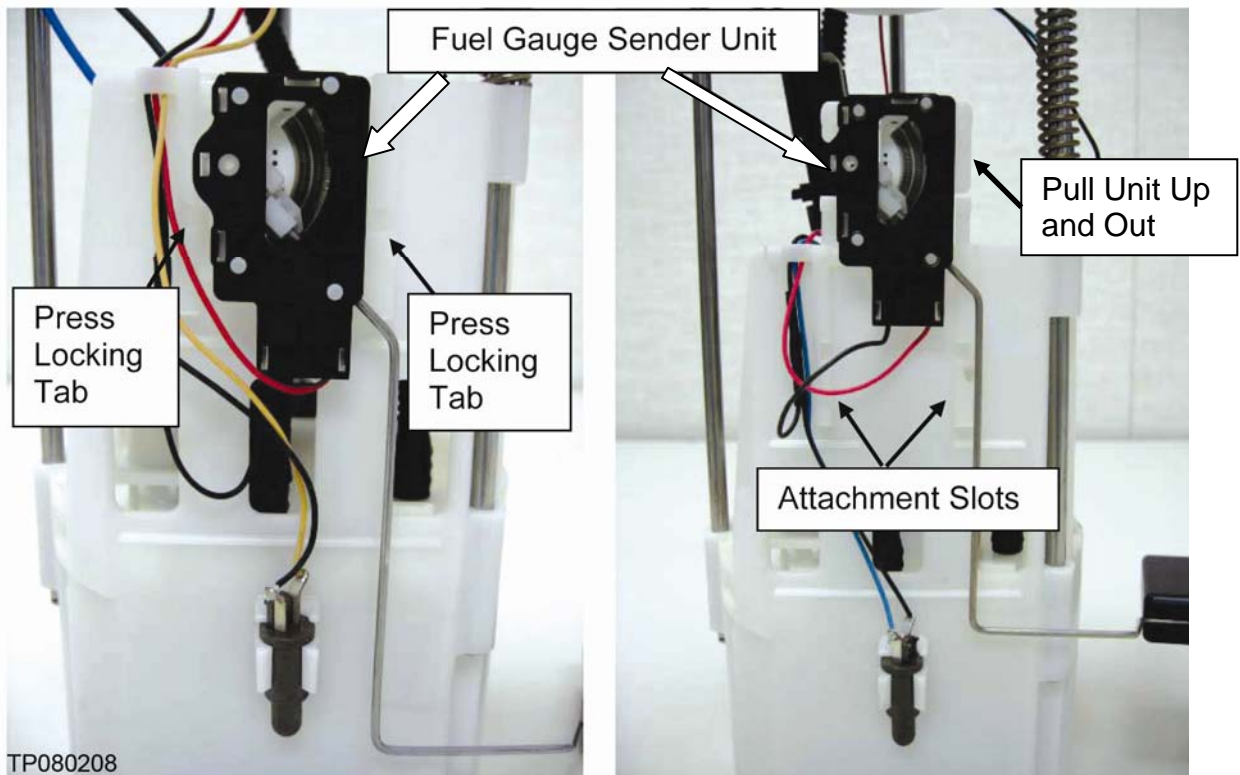

Figure 2
- For Type B see Figure 2 on the next page.